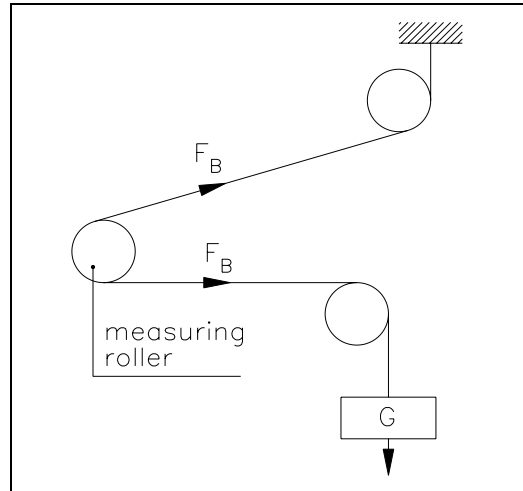

fig. 9: Calibrating the measuring amplifier C431011e
The following instructions are referring to a setup and calibration on-site. The material tension will be simulated by a weight (fig. 9).
- Load material or rope with a defined weight (fig. 9)